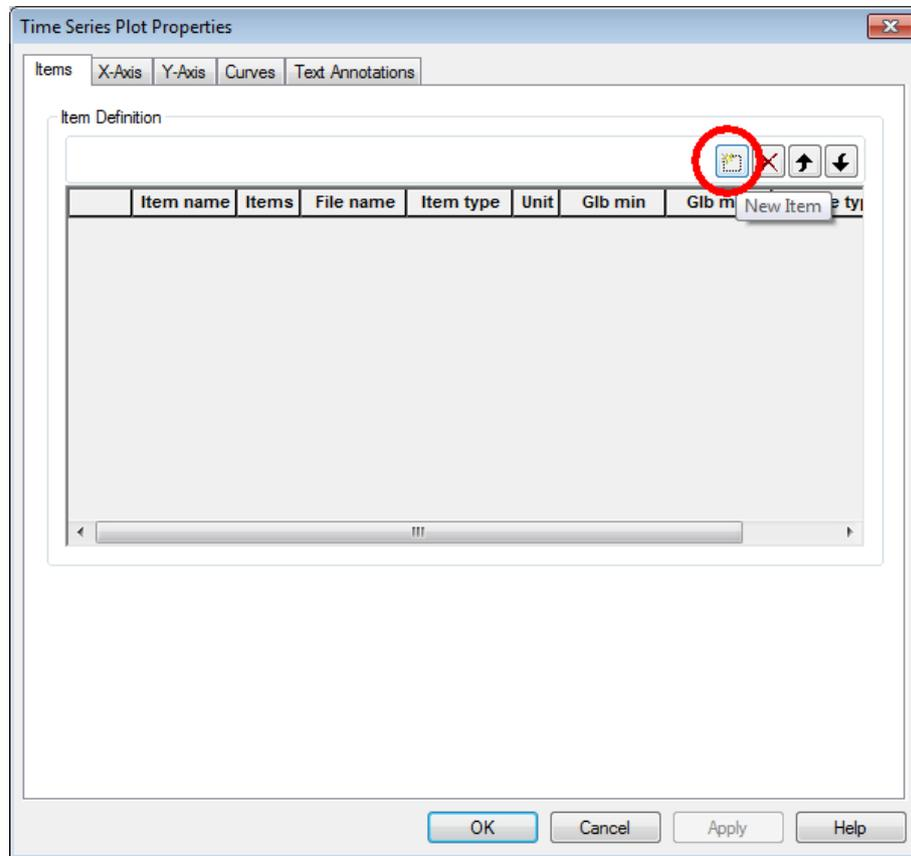

Figure 2.17 Add new time series to plc plot
- b. Under 'Current Expression', type  $i3=i3 - (\text{insert initial value for item 3})$
6. Click on 'New Item', cf. Figure 2.17.